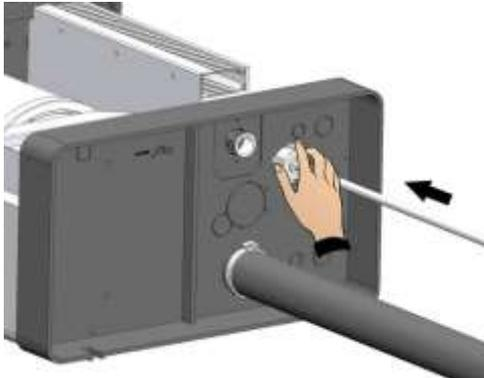

Fig. 11
7. Connect the water supply line to the 3/4 gas connection of the electrovalve located under the humidifier (fig. 11 and 12).